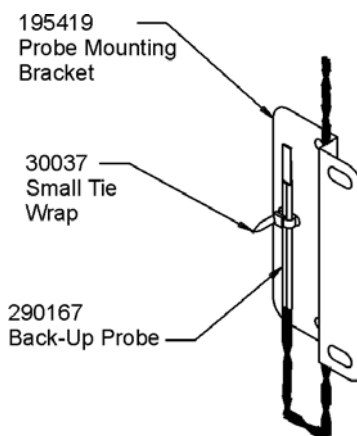

Figure 5-3. Probe
2. As shown in Figure 5-3, thread the small tie wrap through the openings in the front of the bracket. Secure the probe on the back of the bracket with the tie wrap.